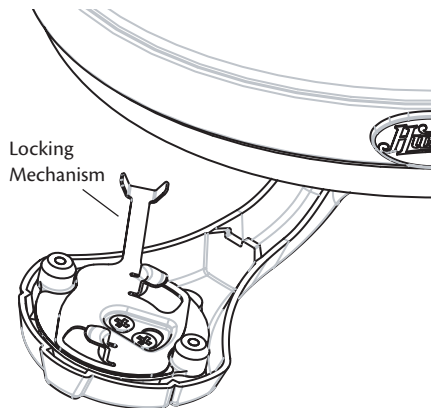

Figure 23 - Opening blade iron locking mechanism
1. Open the locking mechanism as shown in Figure 23.